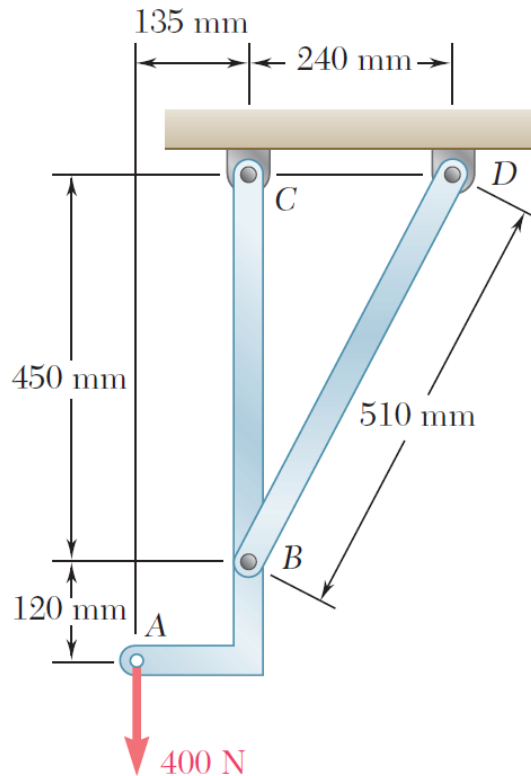

Figure 5
5. Determine the force in member BD (Indicate whether the member is in tension or compression) and the components of the reaction at C, as shown in Fig. 5. Note that: convert unit of length to meter in your calculation (20')